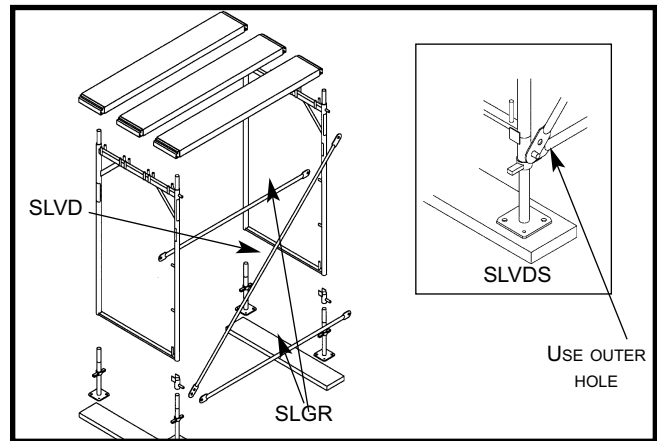
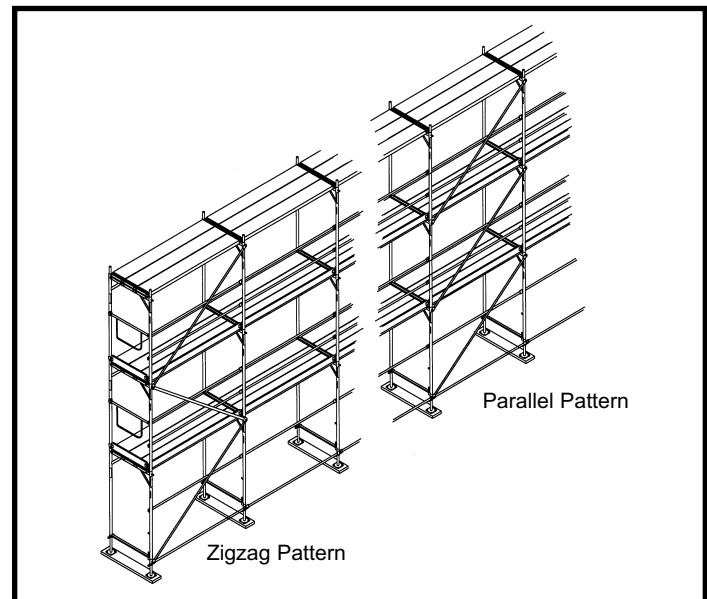

Figure 4: Location of Bracing Members
Figure 12: Vertical Diagonal Bracing Patterns
bracing members will form a triangle with one of the scaffold frames. Install a rail (SLGR_) on the top guardrail studs to connect the two frames. Install three scaffold plank on the star-pins of the two frames. Adjust Screw Jacks until frames are plumb and level (See Figs. 4 and 5). Install a side bracket (SLBR2S) on each frame if side brackets are to be used (See paragraph 2.6.1). Check to assure the frames are at the correct distance from the working surface.
2.2.6 Bracing: Vertical diagonal bracing must be placed from the Base Support or Vertical Diagonal Starter Drop Lock, located just above the Screw Jack handle in the first bracing bay, to the drop lock connection located on top of the other frame in the bay (See Fig. 4). A Vertical Diagonal Brace must also be installed in each vertical lift as the scaffold is erected higher. These additional braces can be placed in a tower fashion using either the zigzag pattern or a parallel pattern (See Fig. 12). Install these additional braces from drop lock stud of the frame below to drop lock stud on the frame above. Repeat this pattern in both end bays and every 4th bay along a scaffold run as described
Diagonal braces will be installed in the designated bays from frame to frame using the outer holes located at the ends of the diagonals (See Figs. 4 and 12).